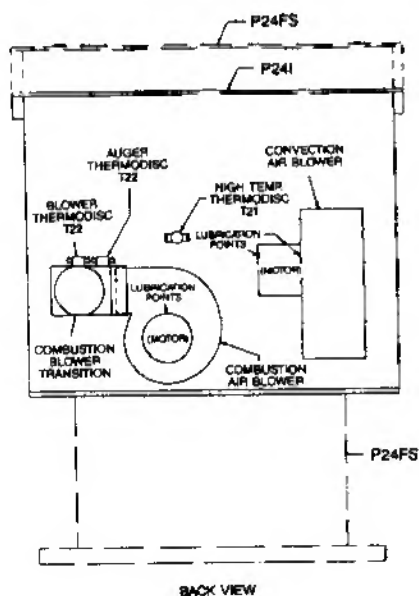

FIGURE 11
- Oiling** — Blower manufacturers suggest oiling annually. See figure 11 for lubrication points. Use SAE 20W oil.
When your stove acts out of the ordinary, the first reaction is to call for help. This guide may save time and money by enabling you to solve simple problems yourself. Problems can be due to only four factors: 1) poor fuel; 2) poor operation or maintenance; 3) poor installation; 4) factory defect. You can usually solve those related to 1 and 2. Your dealer can solve those in 3 and 4. Refer to figures 11, 12, and 13 to help locate indicated parts. REMINDER: Pull plug before servicing, unless otherwise instructed.